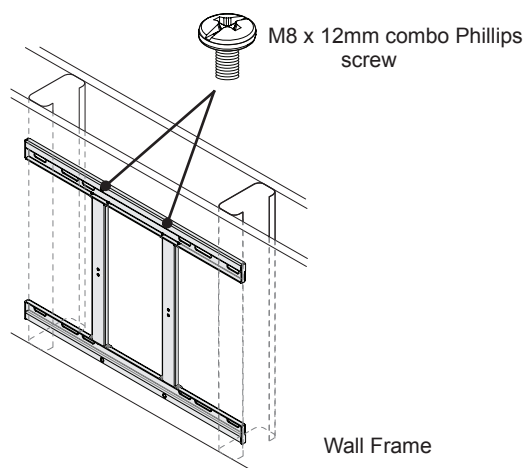

Fig. 1
- 1 Pre-install two (2) M8 x 12mm combo Phillips screws in the top screw holes of the wall frame (Fig. 1) using at least 5 full turns.